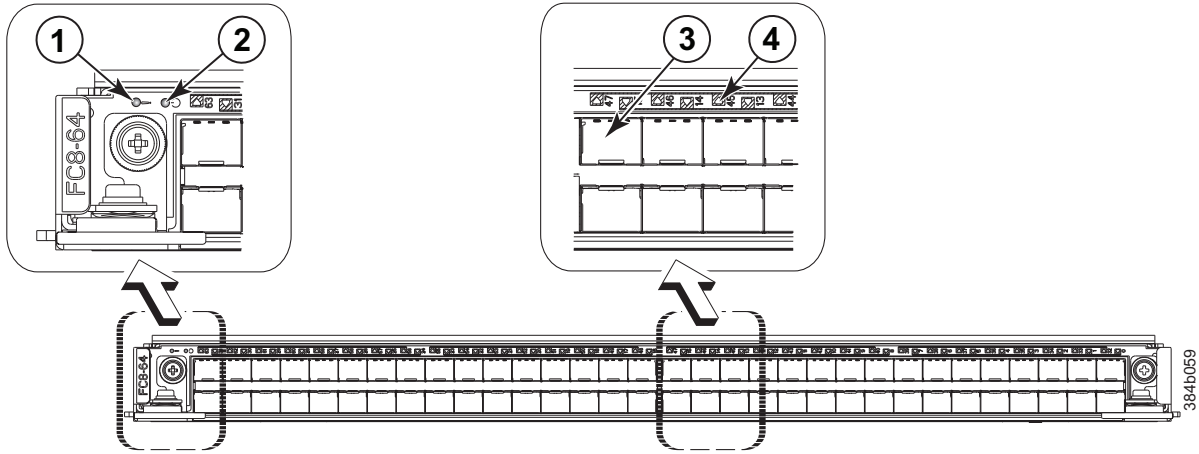

Figure 23. FC8-64 port blade
- Figure 23 on page 57 illustrates the FC8-64 port blade